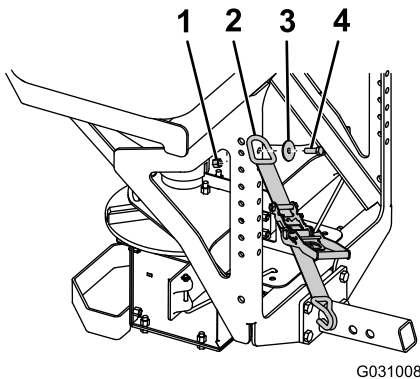

Figure 5
1. Attach the D-ring end of the ratchet straps to the upper holes on the outside of the spreader frame using a bolt (1/2 inch), washer (1/2 inch), and locknut (1/2 inch) and torque the bolts to 76 Nm (56 ft-lb) (Figure 5).